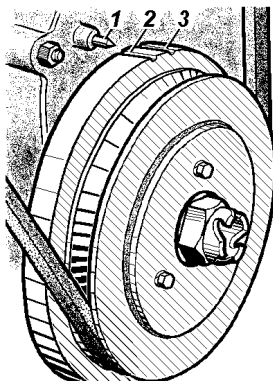
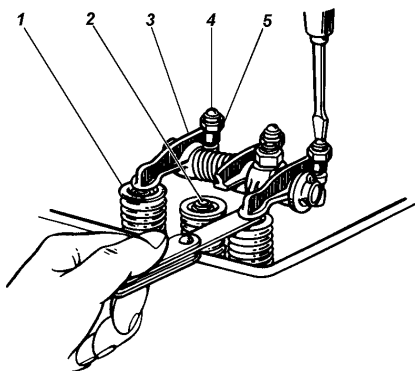

Fig. 20. Timing marks on crankshaft pulley:
Fig. 21. Adjusting clearance between rocker arm and valve:
- using mark (Fig. 20) on the crankshaft pulley, set the piston of No.1 cylinder at the TDC on the compression stroke and check the clearance between the rockers and valves of No.1, 2, 4, 6 with the feeler gauge. In the case of an incorrect clearance, screw out locknut (Fig. 21) of adjusting screw and rotating the letter with a screwdriver, set a required clearance by means of the feeler gauge. Then, holding the adjusting screw with the